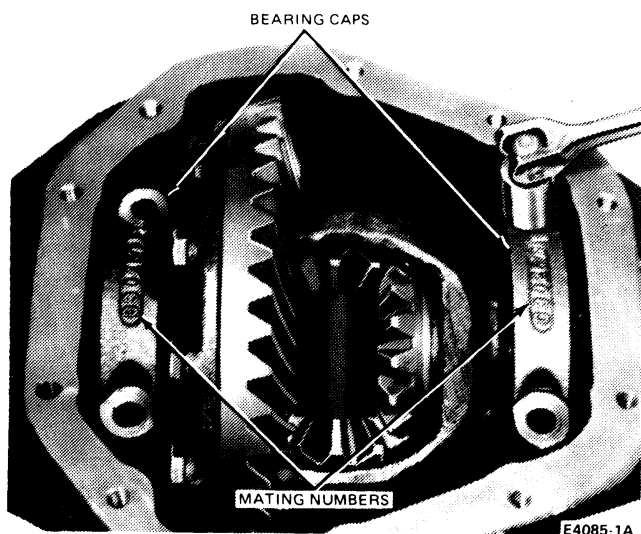

FIG. 16 Removing Bearing Caps
4. Remove bearing caps. **NOTE: Mating letters stamped on caps and carrier (Fig. 16). This is important at time of assembly as they are to be assembled exactly as removed. Letters or numbers are in vertical and horizontal position.**